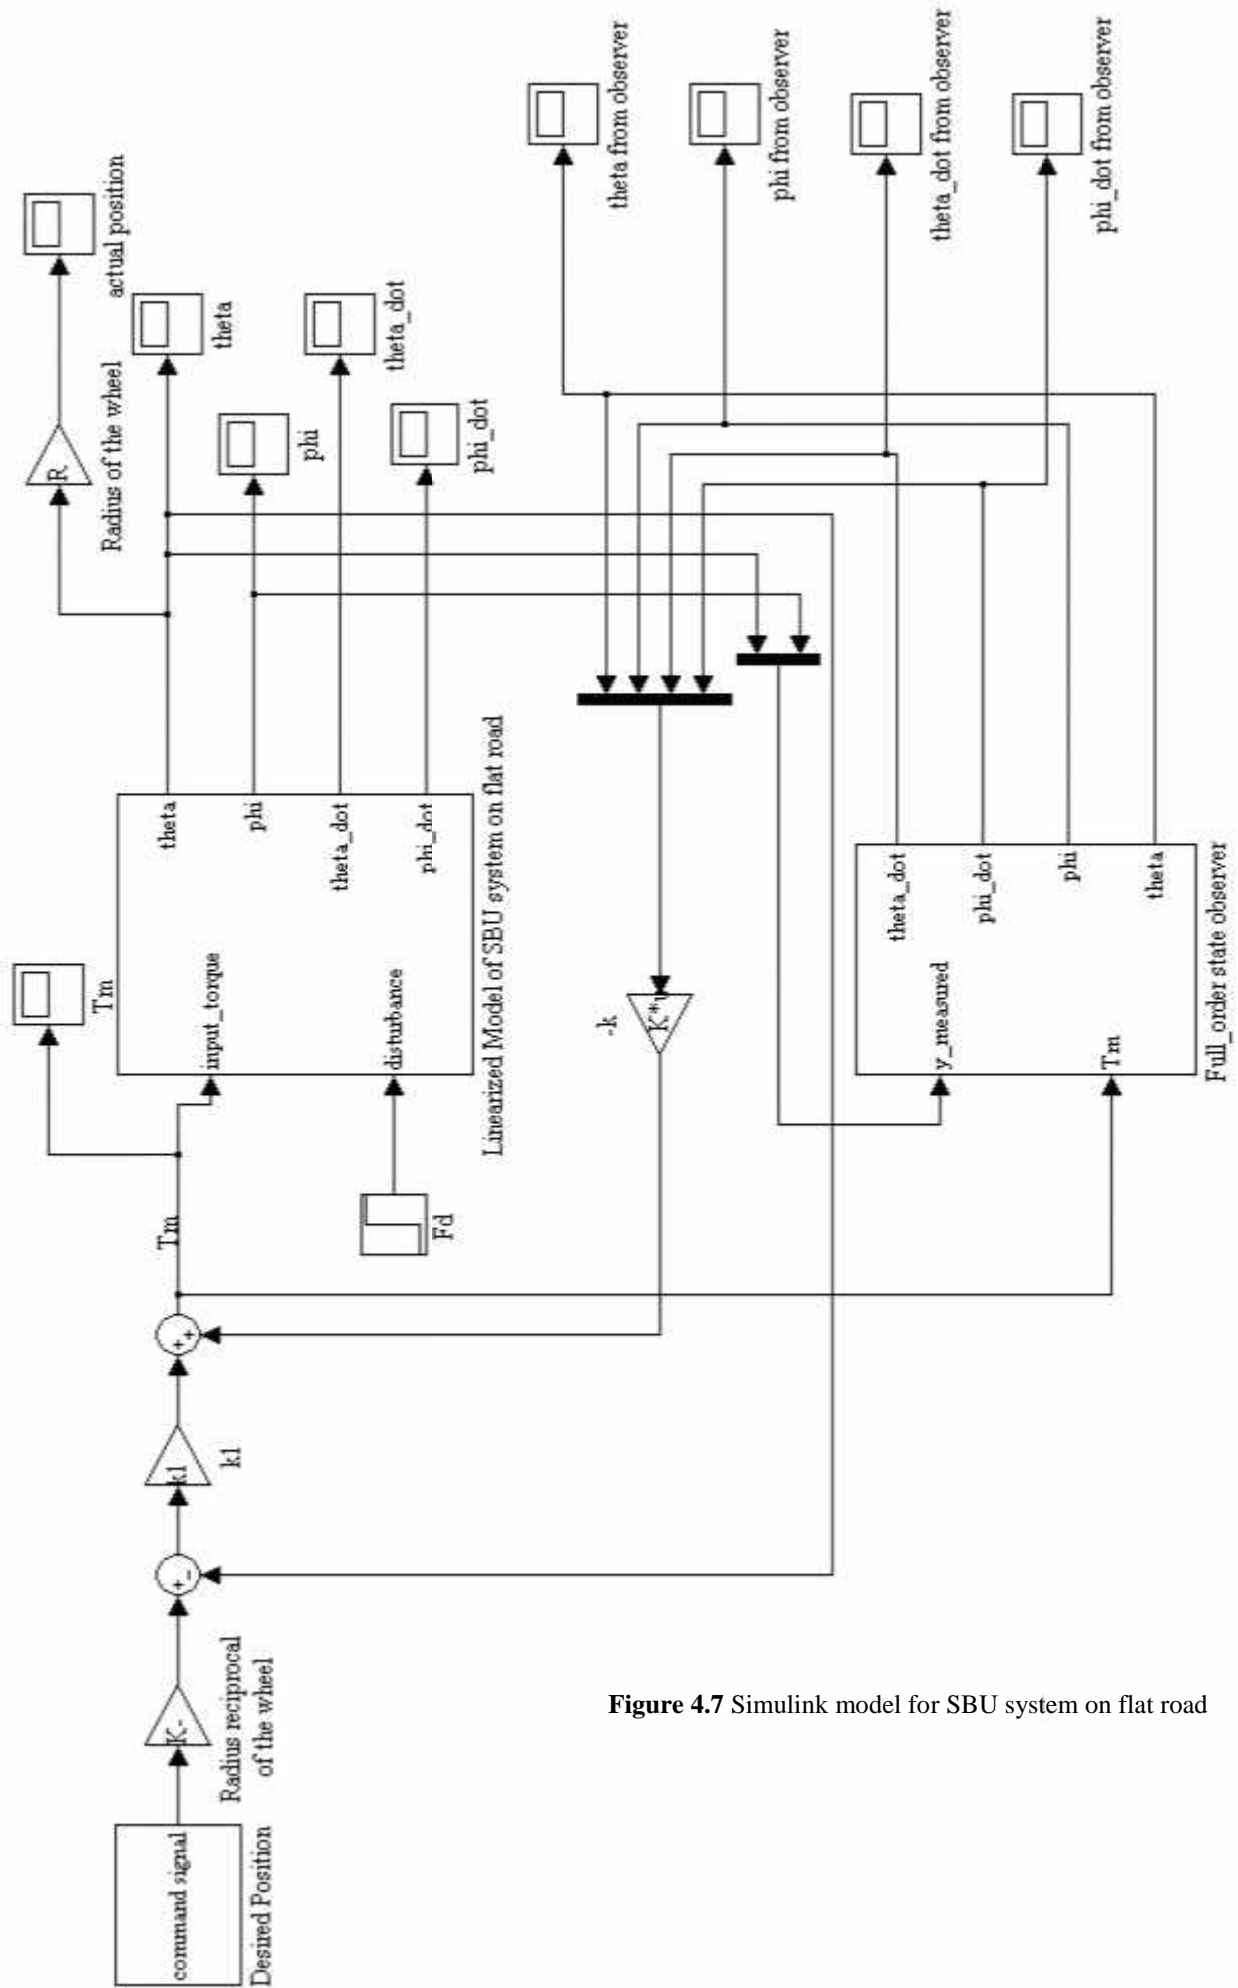

Figure 4.7 Simulink model for SBU system on flat road
The simulink model of SBU system on flat road is shown in Figure 4.7.
- The system model did not exceed the saturation limit of motor torque, so the motor can operate the system in easy way (Figure 4.7).